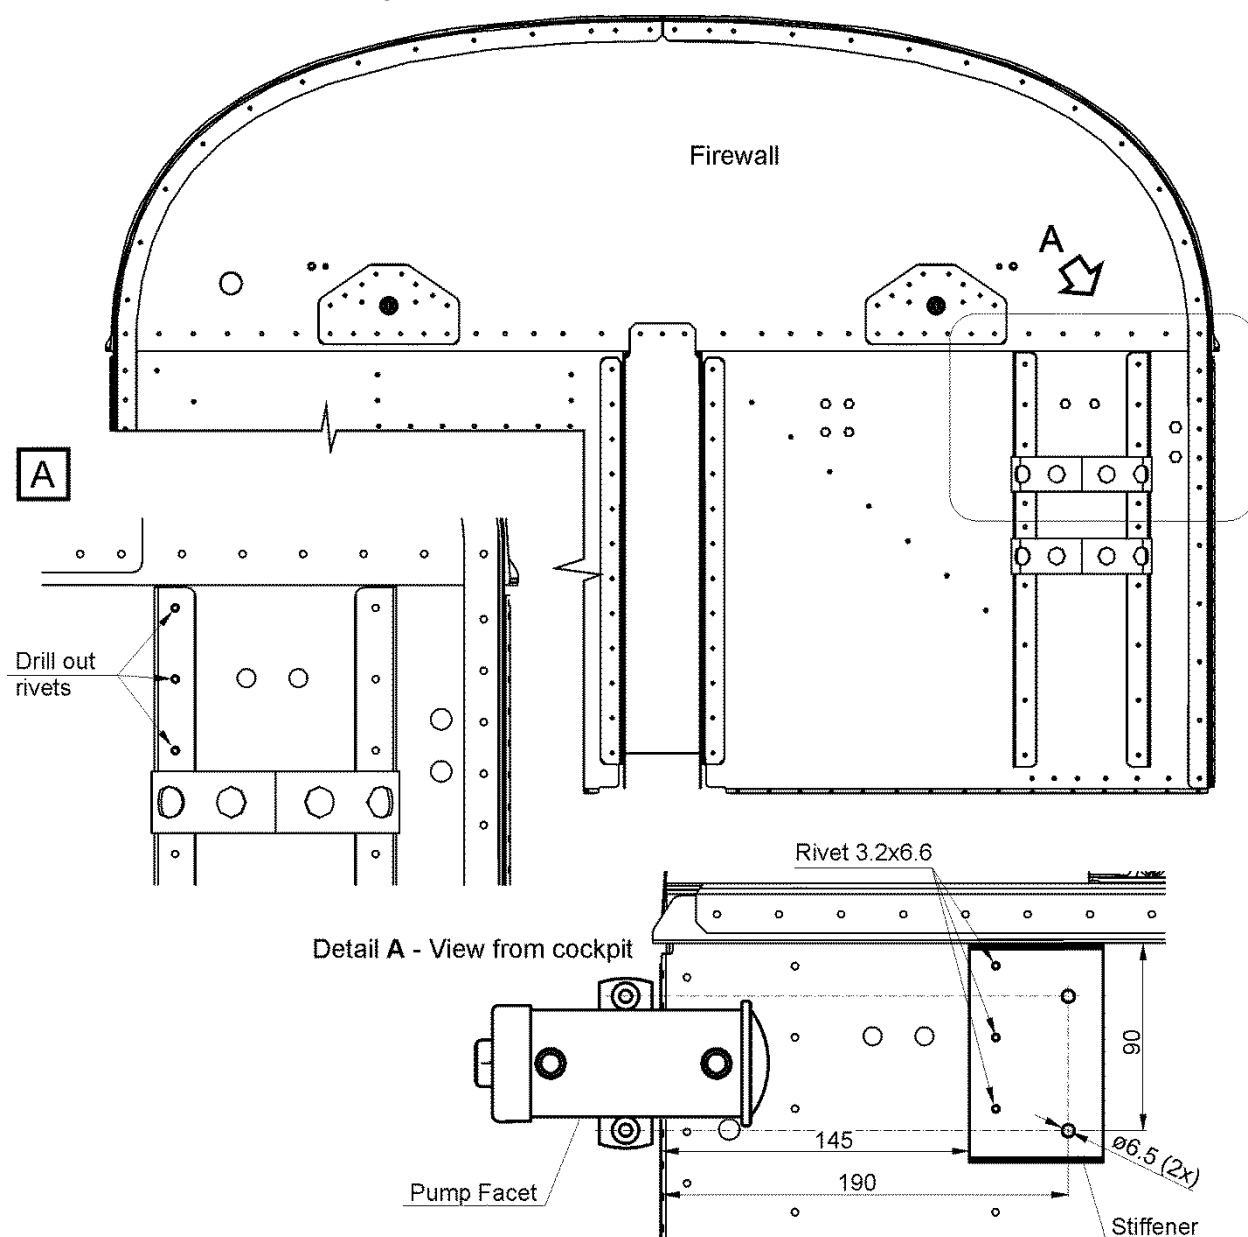

Fig. 1 – Drilling of holes
- 1.3.4 Drill out three rivets on the oil tank holder (see Detail A, Fig. 1).
- 1.3.5 Position the stiffener from inside of firewall so that its position corresponds to Detail A in Fig. 1 and drill it with the firewall.
- 1.3.7 Mark the position of the lower hole for the pump bracket and drill a hole with a 6.5 mm drill bit (see Detail A, Fig. 1).
- 1.3.8 Position the pump on the lower hole, mark the position of the upper hole for the pump bracket and drill a hole with a 6.5 mm drill bit (see Detail A, Fig. 1).